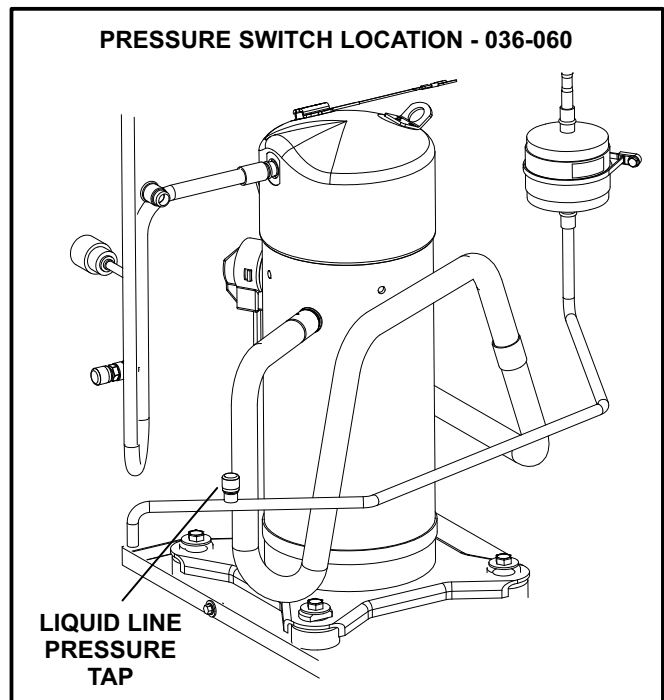

FIGURE 1
- 2- Install valve depressor tee on liquid line pressure tap. See figure 1. Install pressure switch on pressure tap.